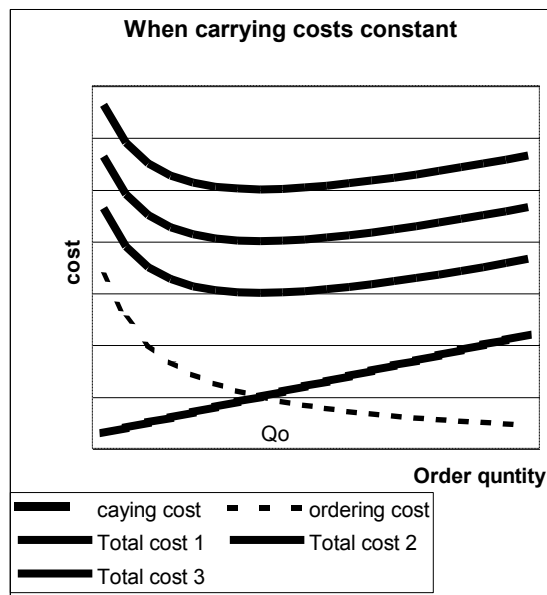

Fig. 2. When carrying costs are constants
- Carrying costs are constant and in the other carrying costs are stated as a percentage of purchase price. When carrying costs are constants, there will be a single EOQ that is the same for all of the cost curves. (figure 2.)